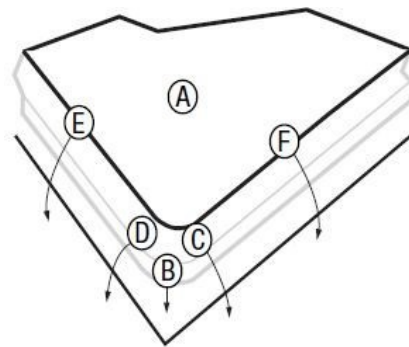

Figure 14. Apply the product on the corner.
4. Apply the Product to the flat surface before conforming the corners and then along the straight edges in this sequence: A, then B, C, and D, then E and F, etc. See Figure 14.